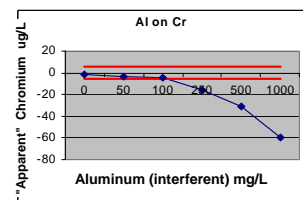

Figure 3. Apparent signal suppression of chromium with increasing aluminum.
Figure 3 is a set of data demonstrating the apparent suppression of signal for chromium with increasing concentrations of aluminum. The parallel bars indicate concentration levels equal to plus (+) and minus (-) the limit of detection (LOD) for chromium. Again, it is notable that if this determination were made using an aluminum concentration of 100 ppm or below, one might incorrectly conclude that aluminum has no effect on chromium. Since we are measuring emission, and we cannot have negative emission, we can only be seeing the effect of either (1) incorrect IEC factors or (2) an inappropriately positioned background correction point. To properly determine IEC factors, any existing corrections should be "turned off", making (2), background correction, the likely problem.